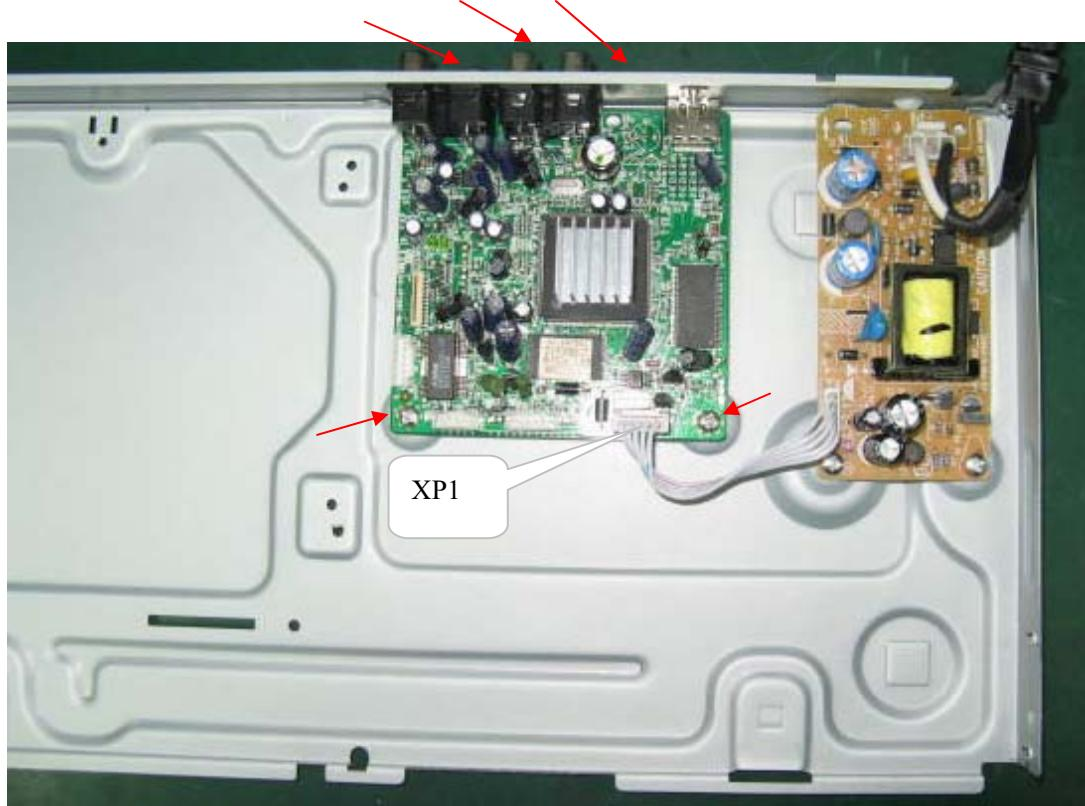

Figure 8
**Step6:** Dismantling Main Board, first disconnect the connector (XP1), and then remove 5 screws. (Figure 8)